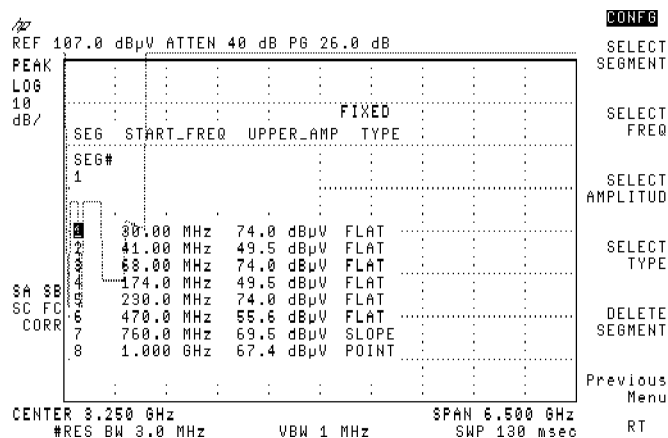

Figure 3-65. Editing a Limit Line
- 3. Press **Edit Limit**. See Figure 3-65.